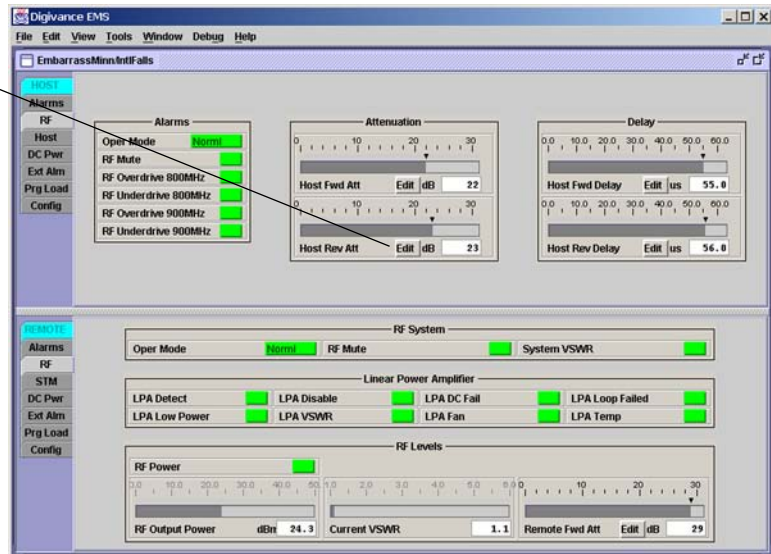
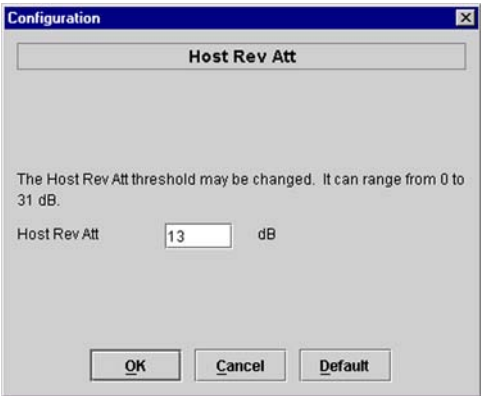

Figure 3-11. Typical HOST RF Display
Figure 3-12. Host Rev Att Pop-Up Screen
4. Click on the HOST RF tab. The HOST RF display will open within the EMS main window as shown in Figure 3-11.
5. Click on the **Host Rev Att** field **Edit** button (see Figure 3-11). The **Host Rev Att** pop-up screen will open as shown in Figure 3-12.